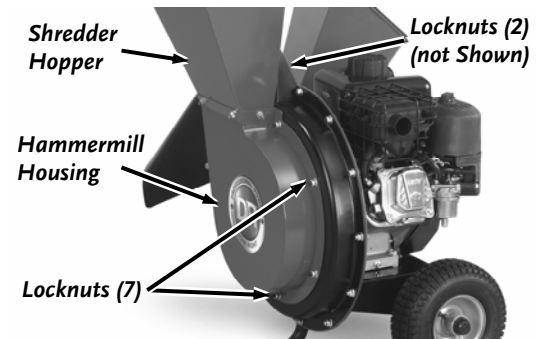

Figure 24
1. Use a 1/2" Wrench to remove the nine Locknuts that secure the Hammermill Housing/Shredder Hopper Assembly (also the Leg for Electric Start Models) (**Figure 24**). Lift the Assembly off the machine.